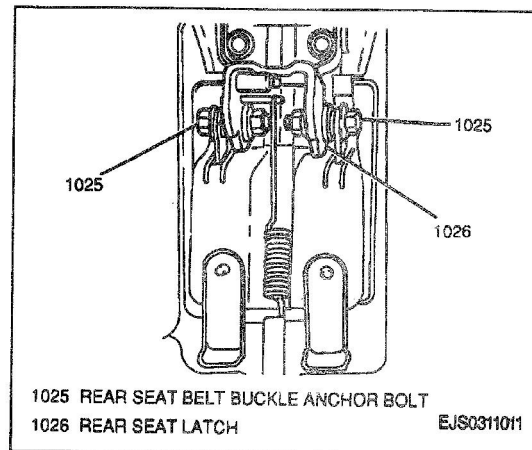

Figure 17—Rear Seat Belt Buckle Anchor Bolt Location—Two - Door Models
8. One anchor bolt from bottom of rear seat cushion securing rear seat belt buckle to seat (Figure 17).
1. Rear seat belt buckle to rear seat; secure with one anchor bolt (Figure 17).